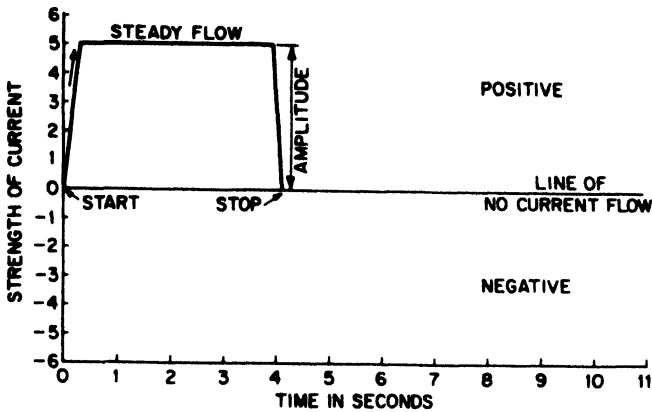

Fig. 9-2. A graph of the curve or waveform of a steady direct current.
**Graph of Direct-Current Flow.** We can draw such a chart or graph to show how electric current flows. First we draw a horizontal line and call it the *line of no-current flow*. When electric current flows in one direction, we call it *positive* and picture its path above the line of no-current flow. When electric current reverses itself and flows in the opposite direction, we call it *negative* and picture its path below the line of no-current flow. Thus, the path of a direct current is entirely above that line. If the current is a steady direct current, the picture of its flow starts at the line of no-current flow and very quickly rises above it to the maximum strength of the current (Fig. 9-2). It then continues to flow at a steady strength of current, and we picture it as a straight horizontal line until the instant when the current is cut off. At that point, the line drops down to zero, the line of no flow. The line we draw picturing that flow of current is called the *curve*, or *waveform*.
**Fluctuating Direct Current.** A direct current may be either steady or fluctuating. If it is steady, the current strength, or maximum distance away from the line of no-current flow, is constant while the current is flowing, as shown in Figure 9-2. In the case of a fluctuating direct current, the current strength is different at different instants of time, as shown in Figure 9-3.
Note that in both Figures 9-2 and 9-3 the current is direct current—that is, it flows in only one direction. You can see this from the graphs by observing that in both cases the curves lie entirely above the line of no-current flow.